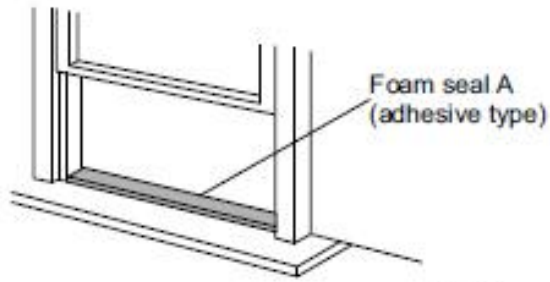

Fig. 9
- 1) Cut the foam seal (adhesive type) to the proper length and attach to the window stool. See Fig 9.